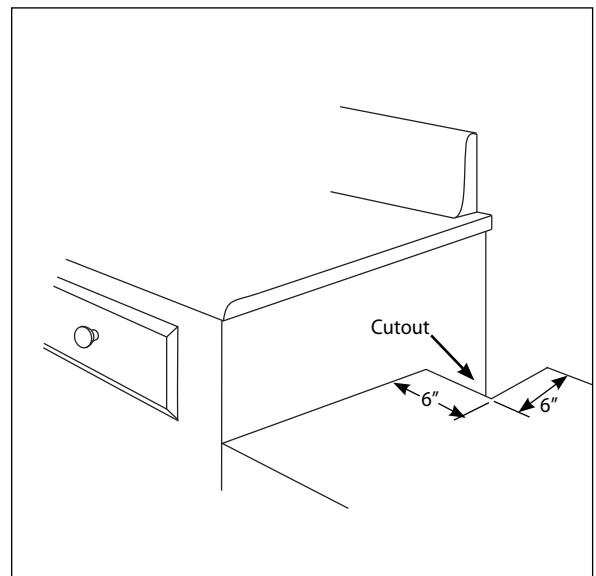

Fig. 4
*The sides or bottom of the opening may be solid combustible or non-combustible material. If the bottom is solid, provide a 6" x 6" cutout in the left rear corner for the gas inlet and power cord clearance. See Fig. 4.*